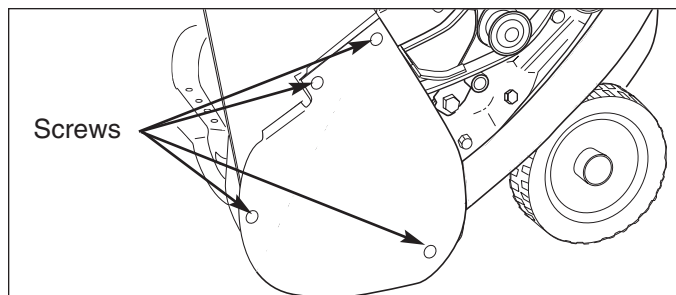

Figure 7. Removing Belt Cover
2. Remove the four screws securing the belt cover (see Figure 7).